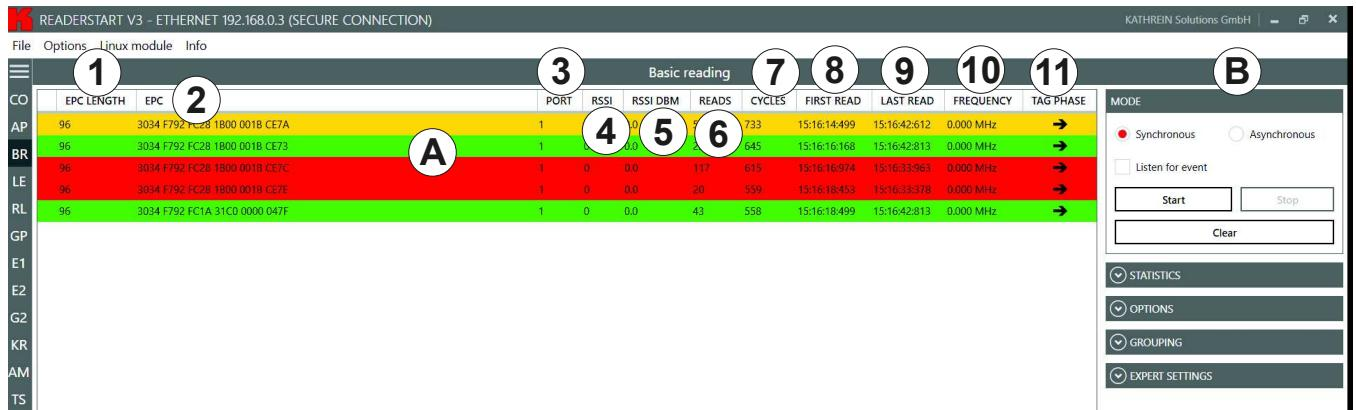
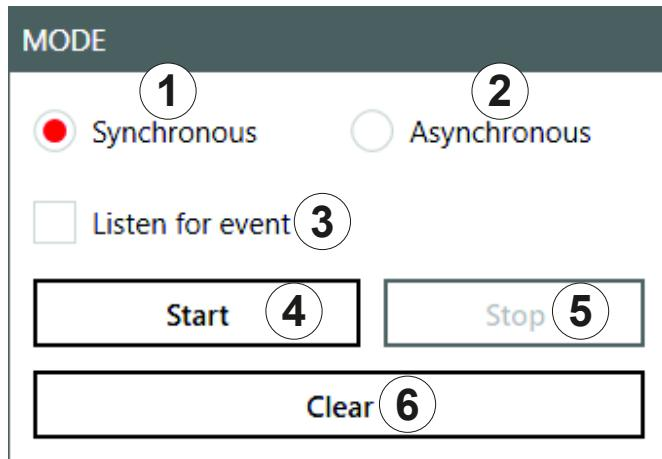

Fig. 41: Basic reading
Fig. 42: Basic reading: mode
④ Start	starts the reading
⑤ Stop	stops the reading
⑥ Clear	deletes the reading results from the table on the left (④ in Fig. 41, p. 81)
- Click *Start* (④ in Fig. 42) to start the reading.
- Click *Stop* (⑤) to stop the reading.
- Click *Clear* (⑥) to remove all tag entries from the table (④ in Fig. 41, p. 81).